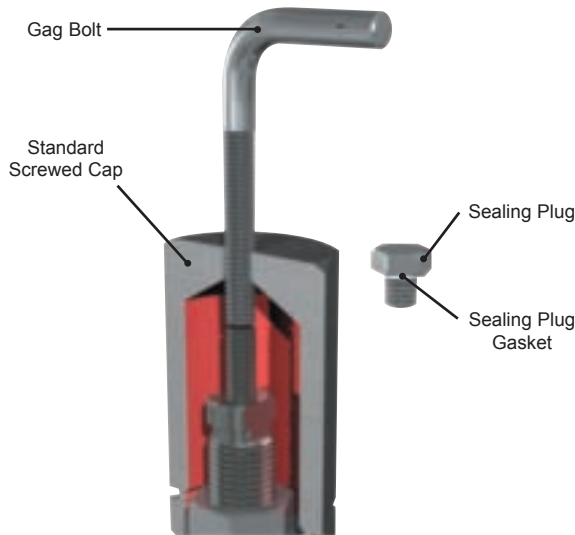

**Figure 3 – O-Ring Soft Seat (DA) Valves**
- (a) Remove the cap (15) (including lifting gear, if any); then, remove the cap (14) gasket.
- (b) Measure the position of the valve adjusting screw (9) and record before removal. Measure from the top of the screw to the adjusting screw locknut (10).
- (c) Loosen the adjusting screw locknut (10) and remove the adjusting screw (9) from the bonnet (5).
- (d) Unscrew the bonnet (5) from the base (1).
- (e) Remove the spindle (6), spring (8), and spring washers (7).
- (f) Remove the guide (4), disc holder (3), and disc (2) from the base (1).
### O-Ring Seat Seal Valves (DA) (See Figure 3)